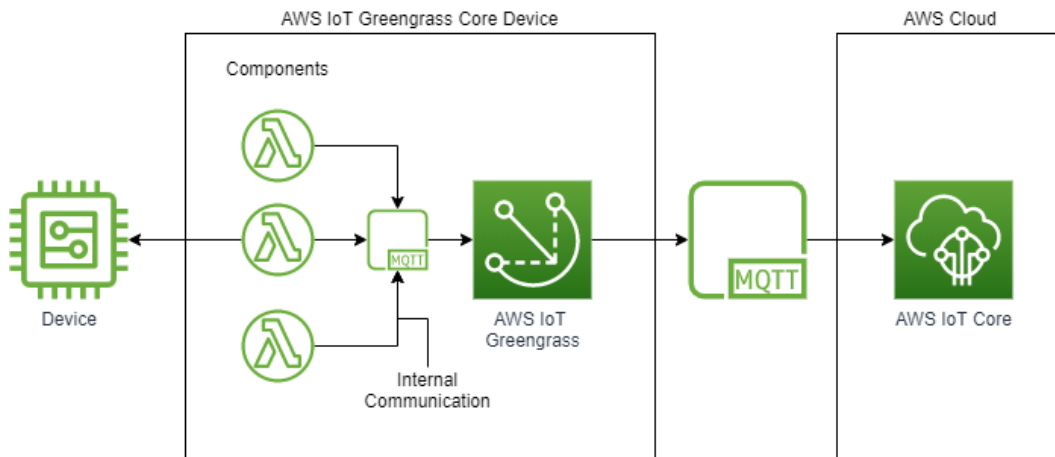

Figure 10.1 – AWS IoT Greengrass
*Figure 10.1* shows how this looks in simple terms. This view represents the example we will build later in this chapter, with the main components outlined that we need to consider. We will expand on this view later in *Figure 10.6* to show in more detail how all the pieces will work together in our scenario; however, it is enough to understand some of the basics for now. We have seen AWS IoT Core already in previous chapters, so we know the essential points about receiving data from a device and processing that data. We will use the Greengrass section in AWS IoT Core, which allows us to deploy Greengrass edge devices and ensure they are set up and communicating with the cloud effectively: